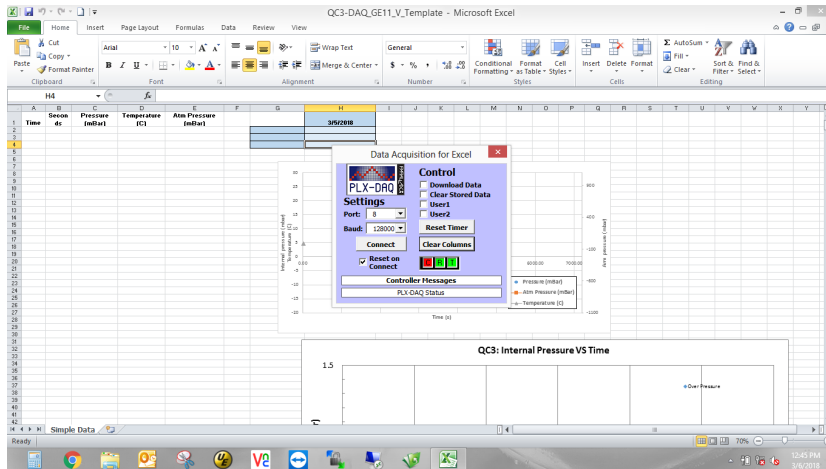

Figure 10: Template for QC₃.
11. The screen in figure 10 displays a spreadsheet ready for data acquisition. Click Connect to begin taking data.